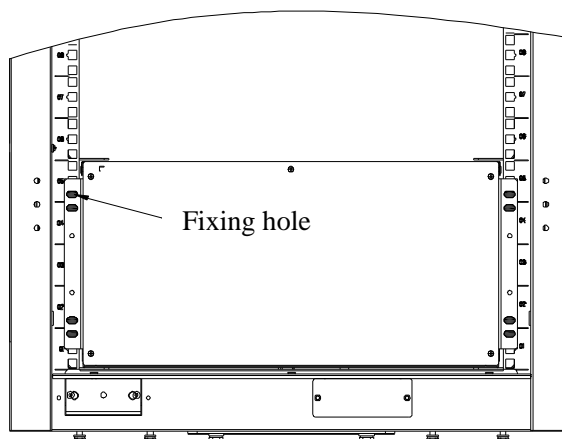

Figure 3-4 Fixed indoor unit
2. Push the indoor unit along the guide rails into the bottom of the cabinet until the hanging ears coincide with the square hole bars, as shown in Figure 3-4.